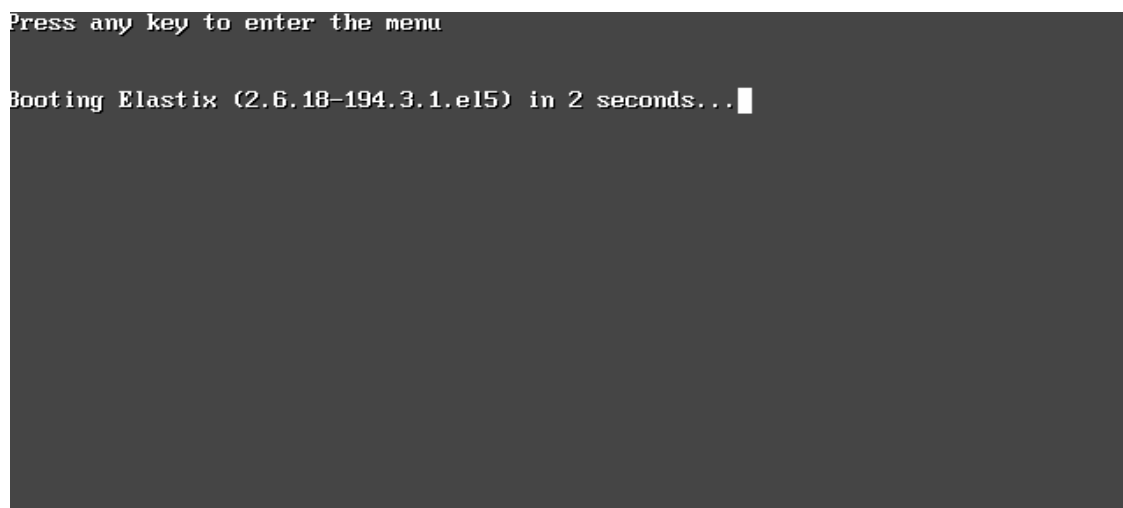

Figure 14
14. After the PC restarts, the system goes into the startup interface (Figure 14).